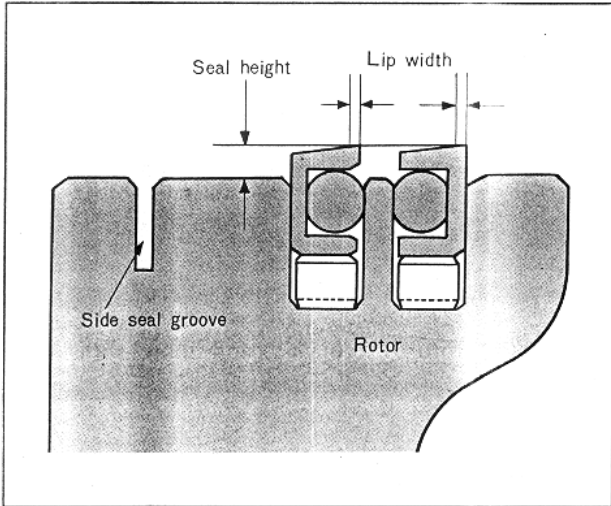

Fig. 1-45 Checking oil seal
2. Check the oil seal protrusion as shown in Fig. 1-45 and confirm the free movement by pressing with finger. The protrusion should be more than 0.5 mm (0.02 in)